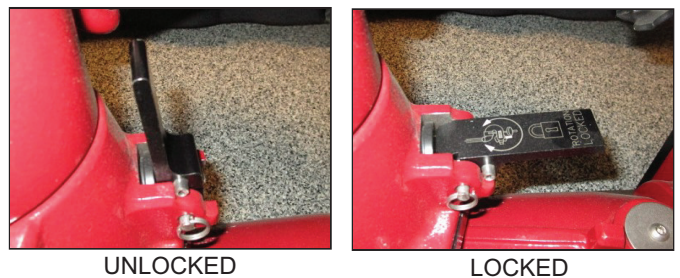

Figure 4.4.1
3. Move the rotational lock lever to the UNLOCKED position. (see Figure 4.4.1)
If the monitor is to be transported on a truck mount base, the horizontal rotation lock should be kept locked to keep the monitor from spinning on its base. The rotational position can be locked by moving the rotation lock lever to its LOCKED position (see Figure 4.4.1). The nozzle may be supported by a bracket or pointed straight up.